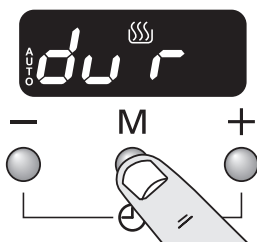
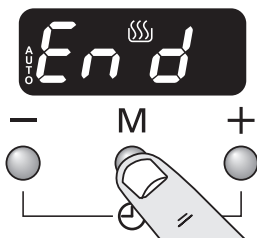

Fig. 5.8
Fig. 5.9
2. Press the mode [M] button until the display flashes 'End' (Fig. 5.8). Then set the 'stop time' using the [+] or [-] buttons. Current time will be displayed along with the word 'AUTO' (Fig. 5.9).